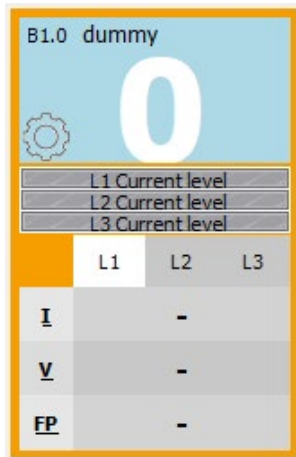

Figure 27 Electrical Boxes – Data display – Principal CcM device
- “Max. Current”: Nominal value of the maximum current of the thermal-magnetic switch or residual-current circuit breaker, to which it is connected. Based on this parameter, the color of the indicator of the circulating current will change with regards to the maximum value of the electrical device (Figure 27).